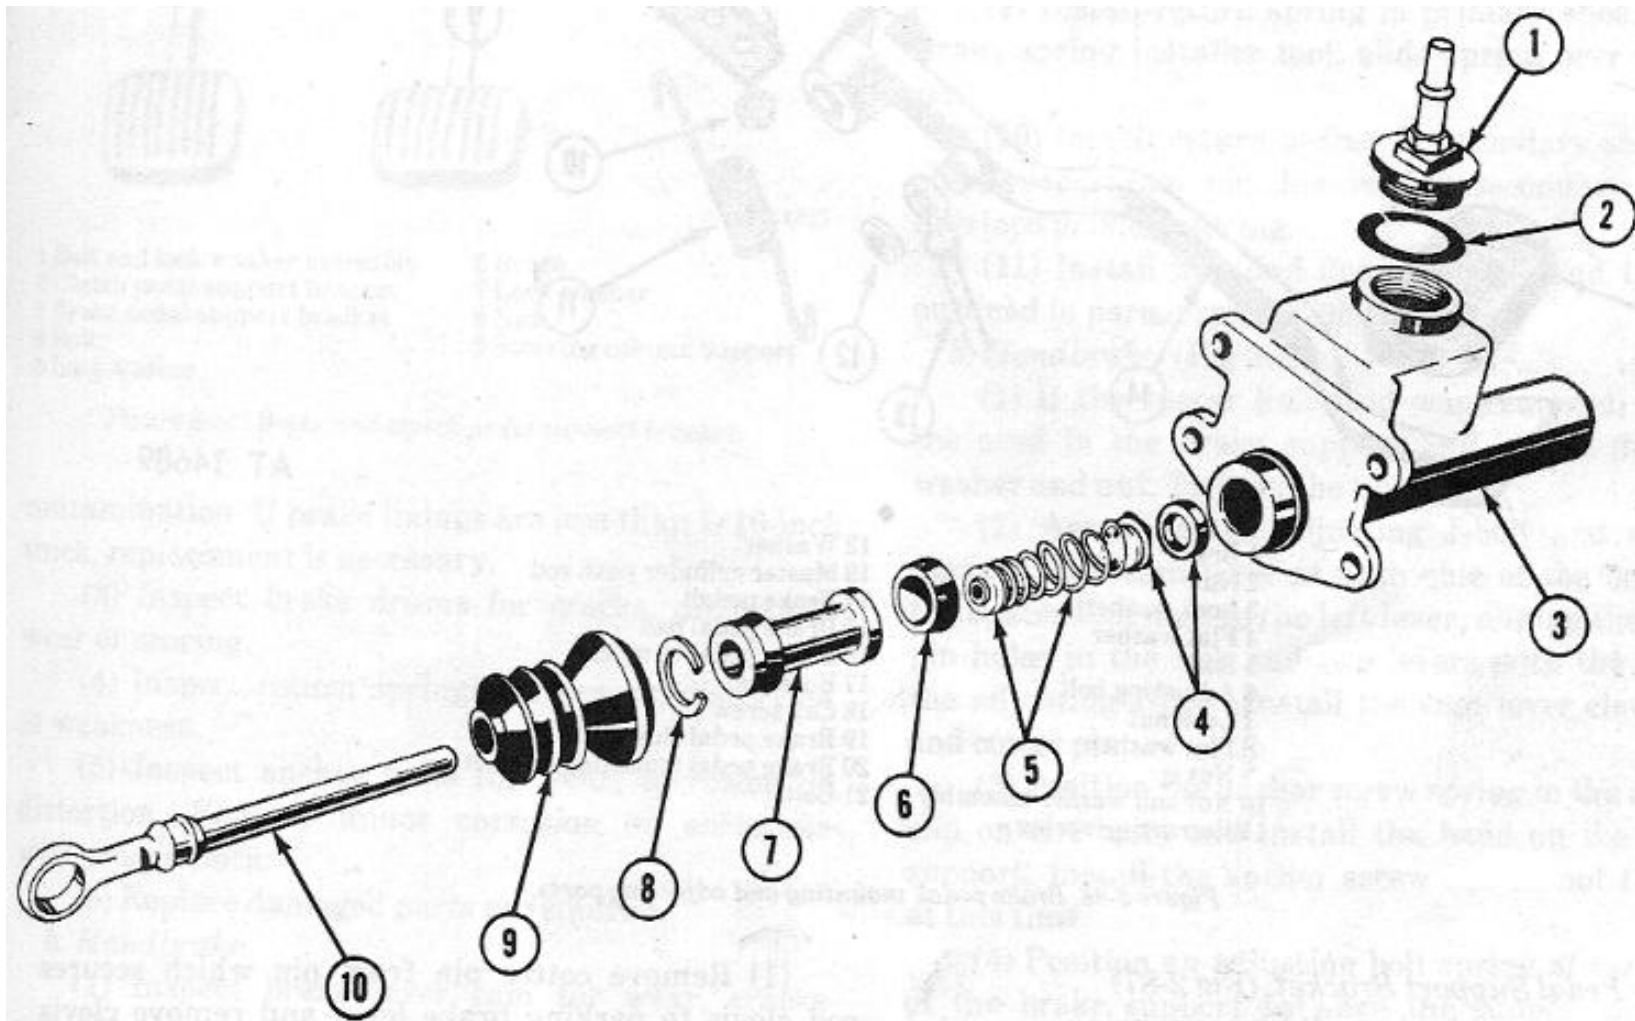

Figure 2-85. Brake master cylinder.
(4) Master cylinder. (Fig 2-85)